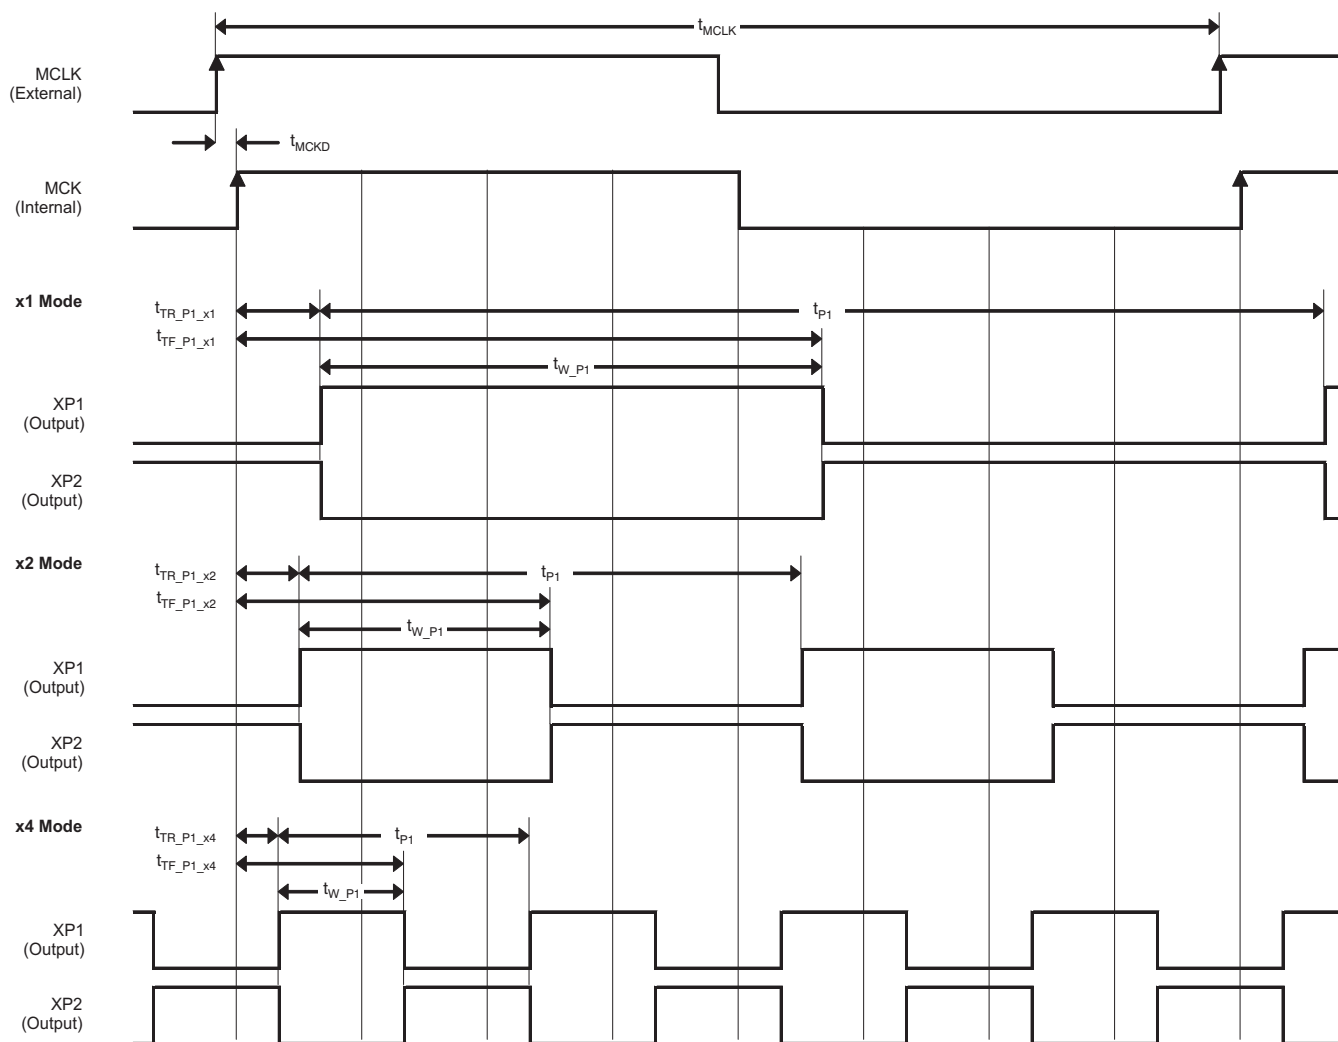

Figure 22. XP1 and XP2 Fast Transfer Clock Pulse Setting
This section describes the timing of the fast transfer clock pulse for XRS (Figure 20), XCP (Figure 21), XP1 and XP2 (Figure 22), XP3 and XP4 (Figure 23), and X1L and X2L (Figure 24).
**Table 14. Timing Requirements for Figure 22**